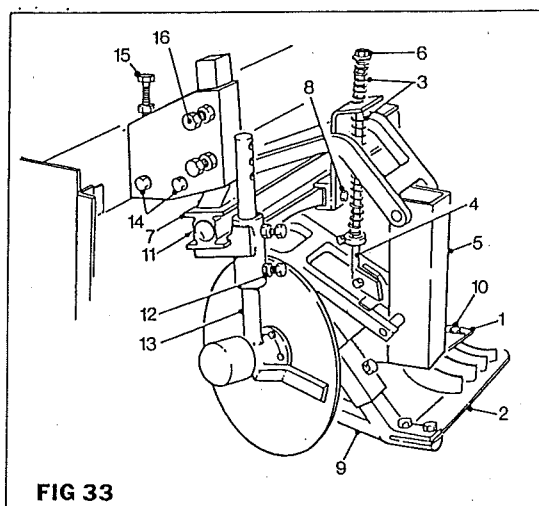

FIG 33
Before attempting to set up the scalpners drive the machine a short distance down the rows of beet to obtain the required pitch of the knives. When topping the beet the knife (item 2 fig 33) should be parallel with the ground. To adjust, slacken the two setscrews (item 14 fig 33) and turn the adjusting screw (item 15 fig 33) until the knife is in the required position and retighten the set-screws. Repeat for the remaining three scalper units.
The amount of beet crown removed by the knife is determined by adjusting the comb (item 1 fig 33) above the knife, (item 2 fig 33). Increasing the distance between the two will remove more beet crown and decreasing the distance will remove less beet crown.
A very important part of the scalping mechanism is the tension of the springs (item 3 fig 33) fitted to the tension rods (item 4 fig 33) designed to give a downward pressure to the knife. Enough pressure should be given to return the scalper arm (item 5 fig 33) and knife to successfully top a low beet after topping a high beet. At the same time, too much pressure will force the knife to dig into the highest beet causing too much beet crown to be removed or the beet to be pushed over.
To adjust the spring, either tighten up or loosen the lock nuts (item 6 fig 33) until the right amount of pressure is acquired.
Each scalper is individually mounted on a support bracket (item 7 fig 33) and by loosening the retaining bolt (item 8 fig 33) and sliding the scalper arm (item 5 fig 33) along the support bracket, adjustments can be made to suit row widths of between 18 inches (48 cms) and 21 inches (53 cms). When setting the scalper for row widths, ensure the knife is crowning the beet as close to the knife arm (item 9 fig 33) as possible.
The comb (item 1 fig 33) is adjustable, backwards and forwards. This setting is determined by the size of the beet. To adjust the combs (item 1 fig 33), slacken the two set-screws (item 10 fig 33) and slide the combs in the required direction to the correct position and retighten the set-screws. The comb should be forward for large beet and backwards for small beet.
Height adjustment is also provided for the scalper arm, depending on the working depth of the harvester. To adjust the height, loosen the two retaining bolts (item 16 fig 33) and slide the scalper leg either up or down until the required height is obtained.
As with the scalpors, the disc coulters can also be adjusted to suit varying row widths. To adjust slacken the securing bolt (item 11 fig 33) and slide the disc assembly along the support bracket (item 7 fig 33) to the required position and retighten. Adjustment is also provided to obtain different depths of cut. To adjust, loosen the two retaining bolts (item 12 fig 33) and slide the disc leg (item 13 fig 33) either up or down until the required depth has been obtained.
As well as varying the depth of cut, the same adjustment can also be used to alter the angle of the disc. The middle disc should be set square to the topper, whereas the two outer discs should have their leading edges slightly tracked inwards (see fig 33).